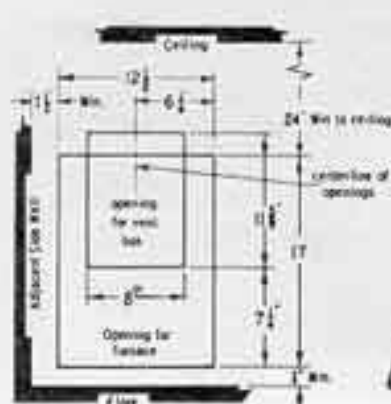
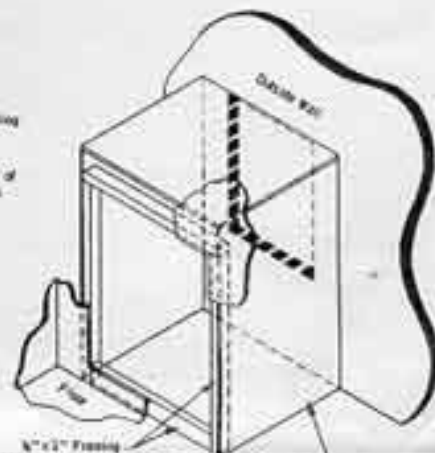

FIG. 1 Front view showing furnace cabinet and outside wall cutout for vent box
FIG. 2 Recommended enclosure if desired, combustible material
3. Provide a 12½" wide x 17" high opening in wall where furnace is to be mounted. The surface of an adjacent inside wall may not be closer than 1½" to one side of this opening. The bottom of opening may not be closer than 1" to the floor or the top closer than 24" to the ceiling. See Figure 1. **NOTE:** If wall where furnace is to be mounted is of thin material such as ½" plywood, the back of the opening must be framed with ½" x 1" (minimum) stock to assure sufficient support. See Figure 2.
4. Provide an 8" wide x 11½" high opening through outside wall to accommodate vent assembly. This opening must be as shown in Figure 1. Check the location and size of this opening very carefully.
7. Enclose body and furnace tubes as well as vent box assembly. See Figure 2. Enclosure must prevent combustible materials from contacting furnace parts as well as preventing objects from damaging the unit. If space for installation is limited, follow tables II and III for minimum clearance around the furnace and vent tubes.
In actual installation, however, the enclosure need not contact the outside surfaces of the unit and may be as simple as shown in Figure 2.